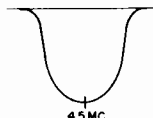

FIGURE 3
1. Short out the Discriminator Coil by placing a short jumper across R27 (MA and MB) or R33 (ME) 150K.
7. Connect the oscilloscope directly to TP4. Connect a 4.5 mc signal from the sweep generator and marker generator to TP2. Set the Contrast Control at minimum and adjust L10 (bottom of chassis) and L13 (MB and ME only) maximum output at 4.5 mc. Repeat adjustment to obtain the curve of figure 3.
9. Tune in a strong TV signal. Adjust L14 (MA and MB) or L15 (ME) for maximum volume and minimum buzz. Notice that several peaks are evident, tune to the second peak starting with the slug all the way out.